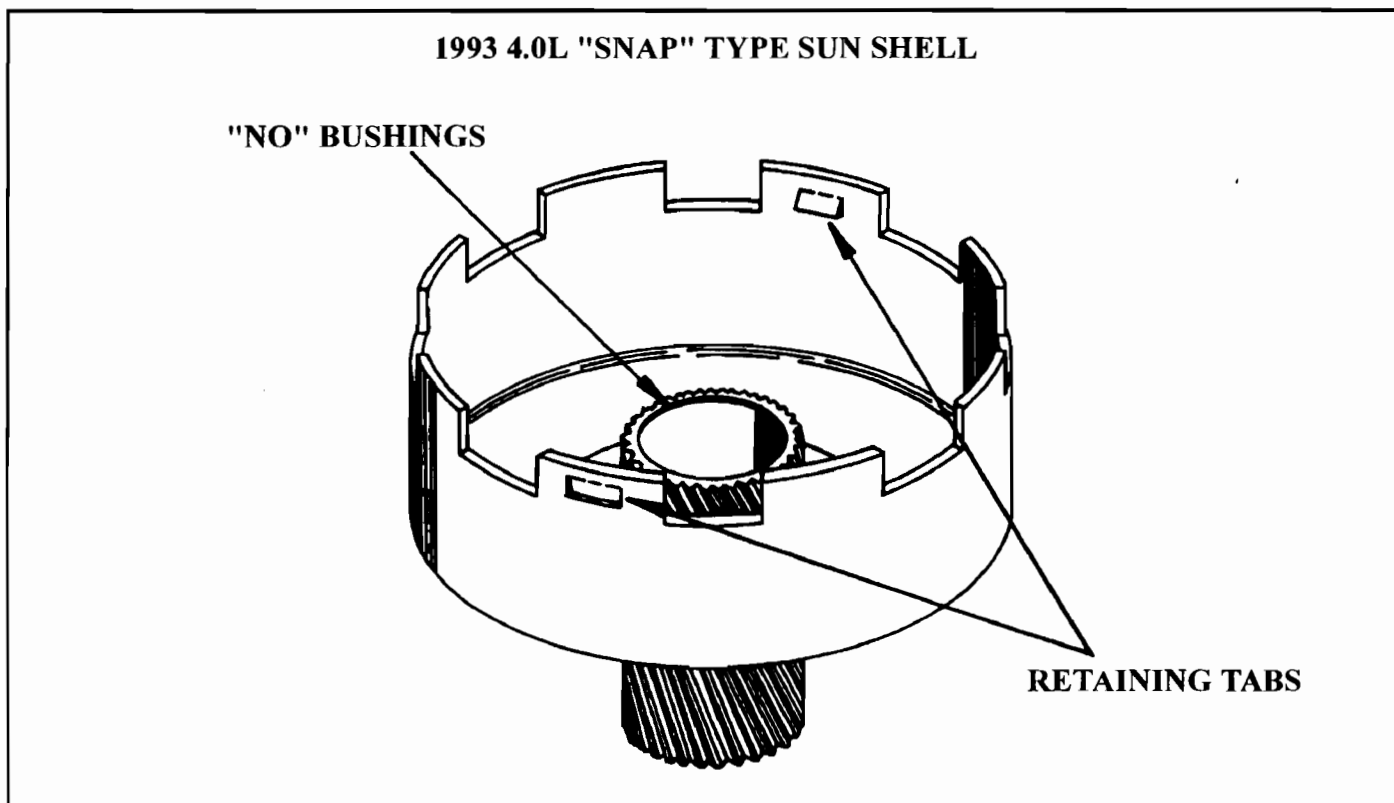

Figure 14
- (2) **SUN GEAR SHELL** - "Snap Shell" was introduced in 1993 4.0L engine models, and has two retaining tabs stamped into the sides 180° apart, as shown in Figure 14. These tabs are used to retain the new direct drum in the sun gear shell.